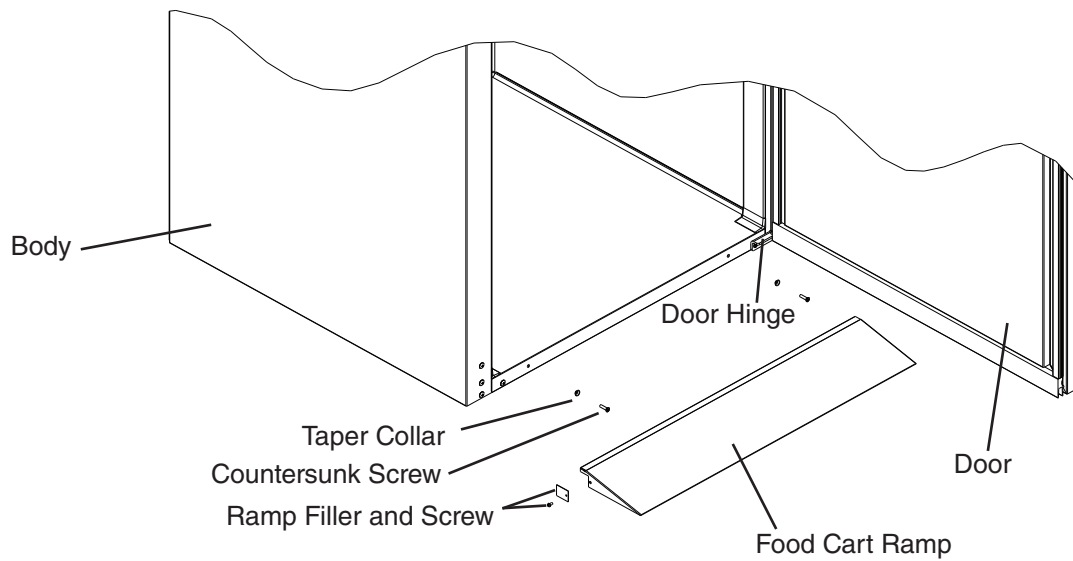

Fig. 11
- 1) Attach the taper collars and countersunk screws to the body. See Fig. 11.